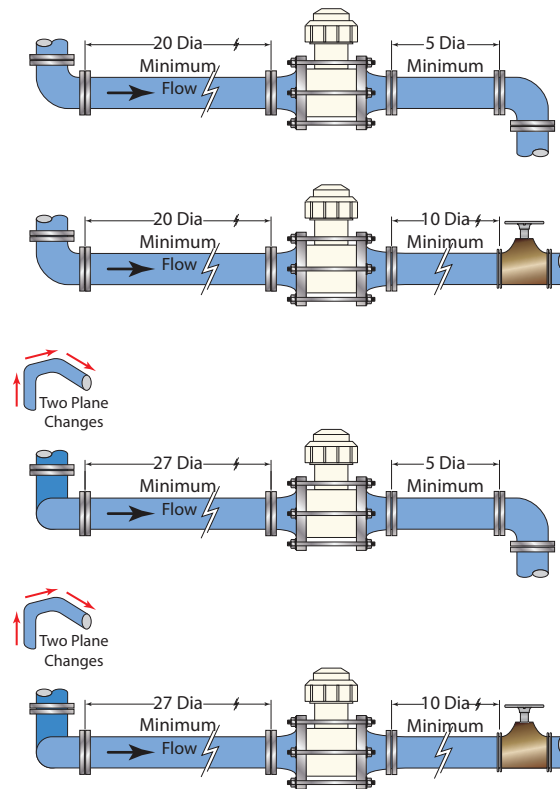
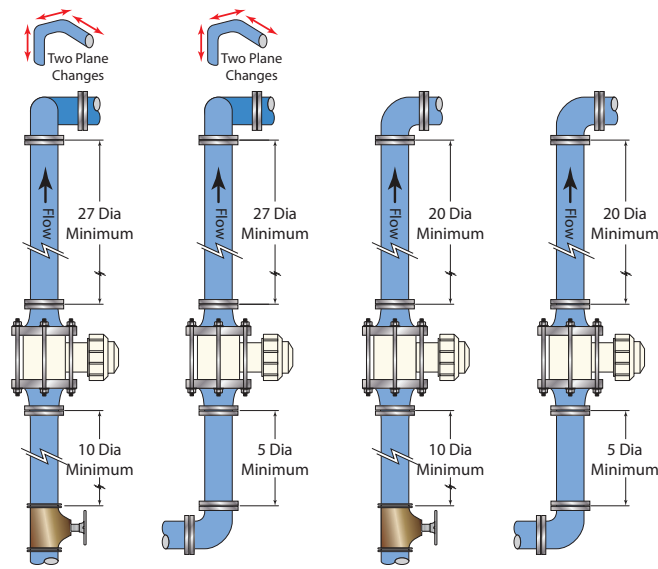
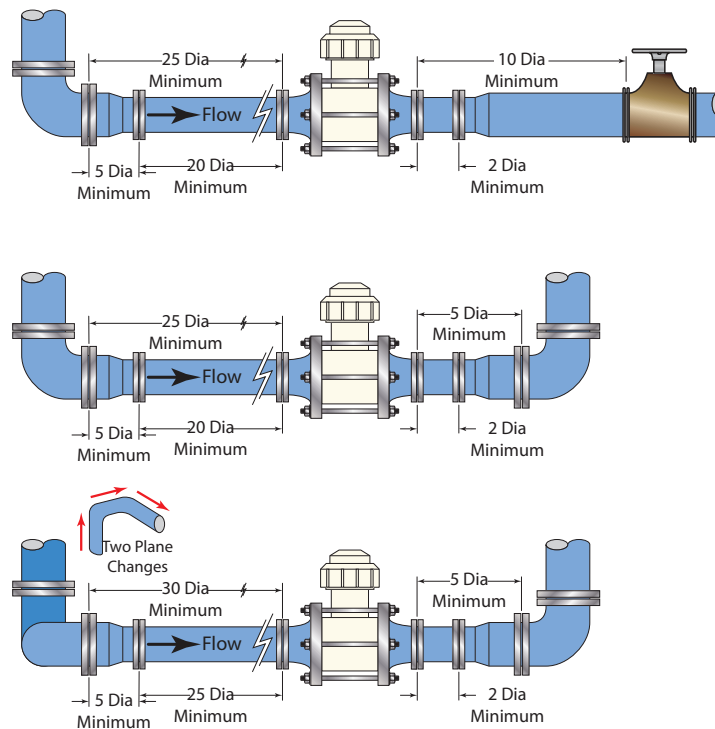

Figure 2: Horizontal flow with sensing element in vertical orientation
Figure 4: Vertical flow with a change in direction or valve
Figure 5: Horizontal flow with a change in pipe diameter
Turbulence in the pipeline can affect the accuracy of flow meters. Typical sources of turbulence are pumps, valves, change in pipe diameter or changes-in-direction in the line. Install the meter away from the turbulence source to avoid turbulence issues. These distances are indicated in Pipe Diameters (PD). For example, 10 PD is ten times the inside pipe diameter away from the source of turbulence. Follow upstream and downstream distances for all sources of turbulence. See Figure 2 on page 7, Figure 3 on page 8, Figure 4 on page 9 and Figure 5 on page 9 for proper piping distance requirements.